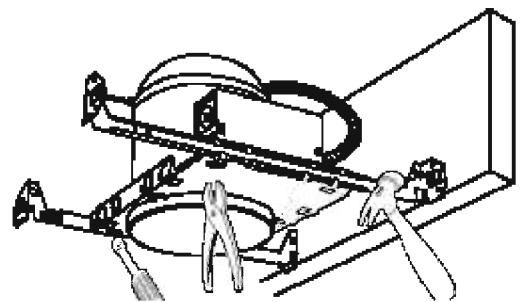

Fig. 4
3. Extend bar hangers to fit between joists and place lip of bar hanger on bottom of joist. Position fixture by hammering nails into joists (Fig. 4).
Slide luminaire on hanger bars to desired position. To secure fixture position, tighten screw of bend prongs on plaster frame over bar hangers (Fig. 4).
Adjust the fixture for ceiling thickness by loosening the hex screws that attach the round housing to the plaster frame. Bring bottom edge of housing flush with ceiling line and tighten screws (Fig. 4).